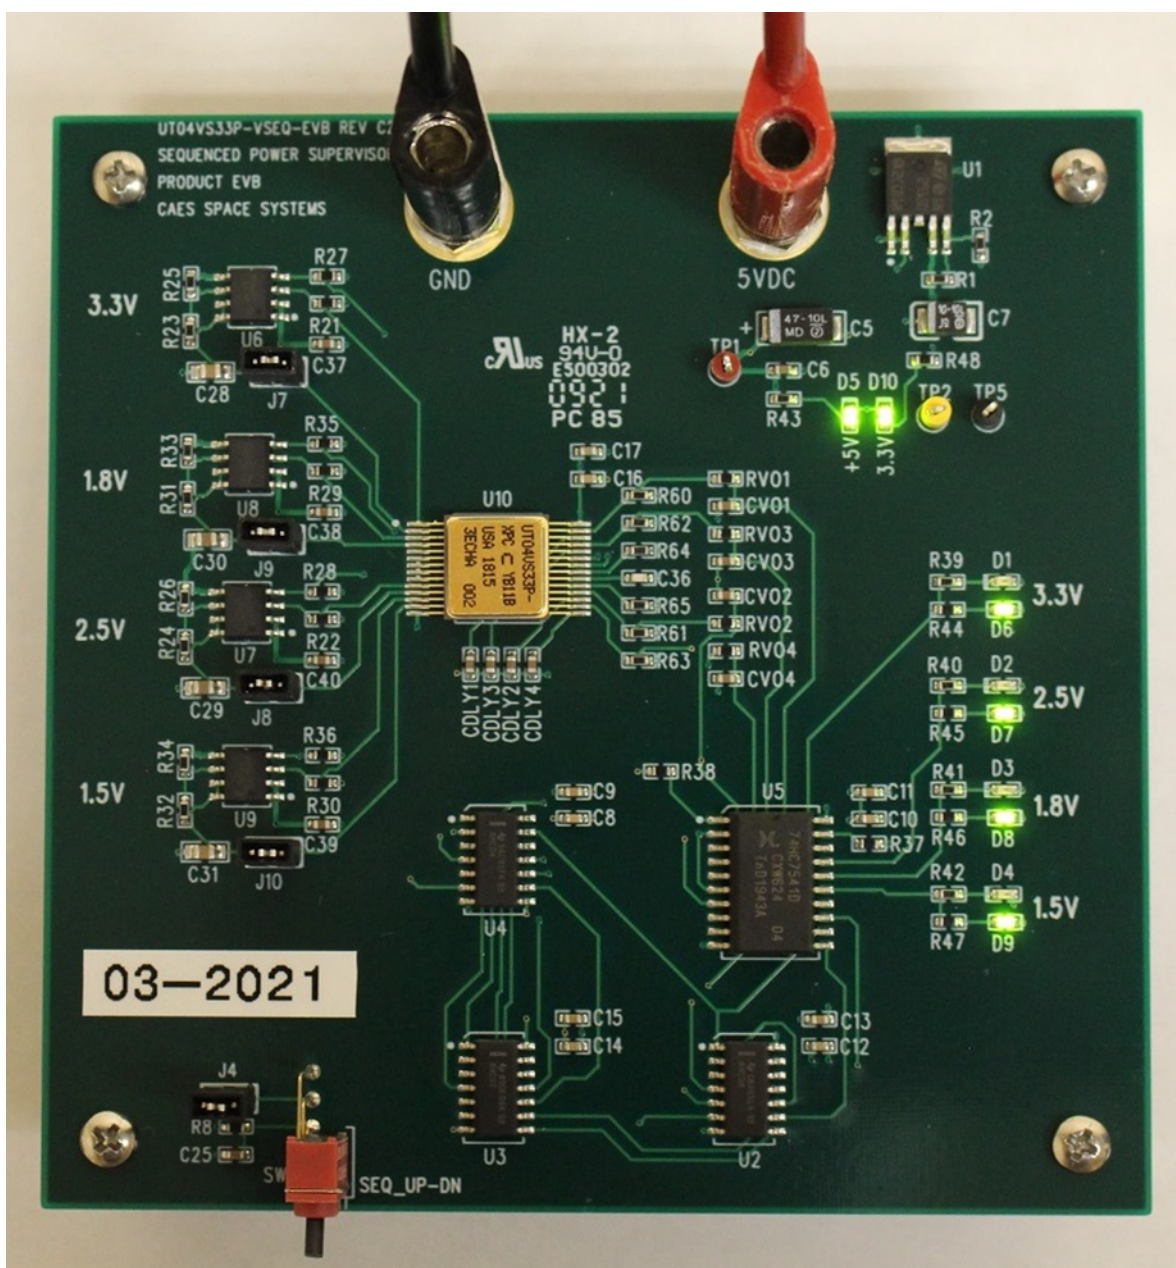

Figure 2. CAES Intelligent Power Sequencer Demonstration Board, Top View
- 4) One 5.0V to 3.3V Voltage Regulator is also included, representing a stable, system-level power supply that generates VDD=3.3V for the 8-b RHMSI Logic and the UT04VS33P Voltage Supervisor. The CAES Intelligent Power Sequencer Demonstration Board is shown in Figure 2.